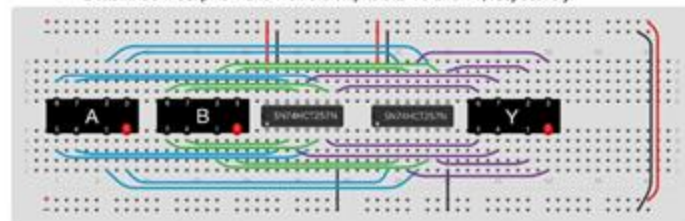

Figure 11: Connect the wires to the output bus (purple wires).
- Connect the other side of the resistor to both chips at pin 1 (yellow wires in Figure 11).